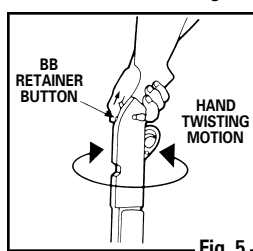
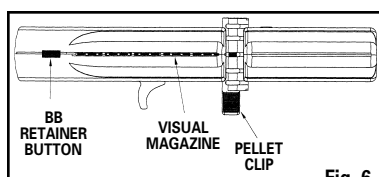

Fig. 5
Fig. 6
- Pull the BB retainer button back (Fig. 5).
- With a hand twisting motion, shake and twist the air rifle (See Fig. 5) to fill the visual magazine (See Fig. 6).
- Push the BB retainer button forward to keep the BBs in the magazine as shown in Fig. 6.
- Position the pellet clip so the bolt will feed through one of the pellet chambers in the clip. (See Fig. 6) (As you push the bolt forward slowly, you can see the BB move through the pellet clip) (See Fig. 6). The BB is now in position to be fired out of the barrel.